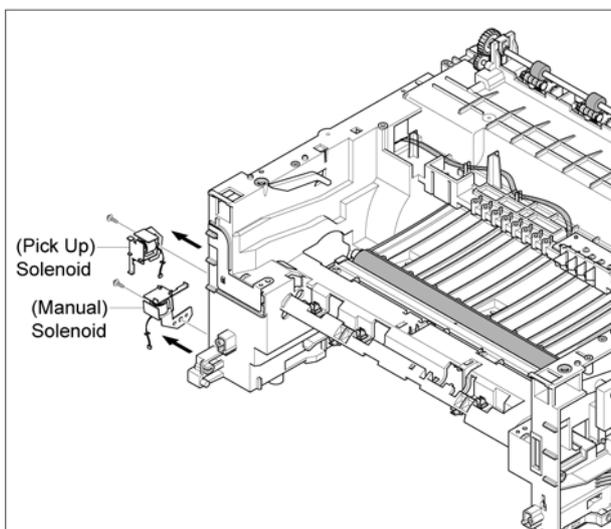

Figure 3
- Remove 2 screws, then the Solenoid HB (Bypass) and Pickup Solenoid HB (Pickup), Figure 3.